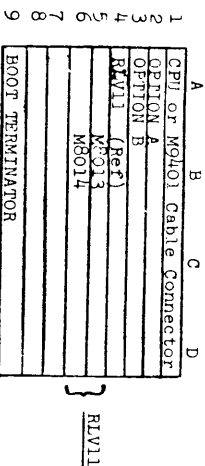

FIG. 1: H9273 Backplane Module Configuration
Modules are inserted in any two consecutive slots with the M8Ø13 inserted in the slot which is electrically closest to the CPU and the M8Ø14 inserted in the slot directly behind as in Figure 1.
1. Always locate the RLV11 module set at a lower priority (further away from the CPU) than any volatile DMA devices, tape units, and the RKV11 as in Figure 1.